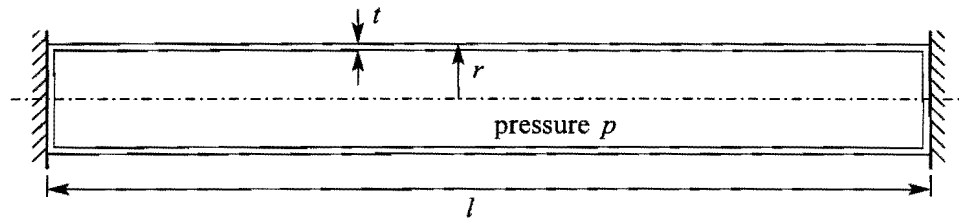

Figure 3
7. The long, thin-walled cylindrical tank shown in section (Figure 3) just fits between two rigid immovable end-walls when the gauge pressure is zero. The tank is made from linear-elastic material having Young's modulus, E , Poisson's ratio, ν , and coefficient of thermal expansion, α .